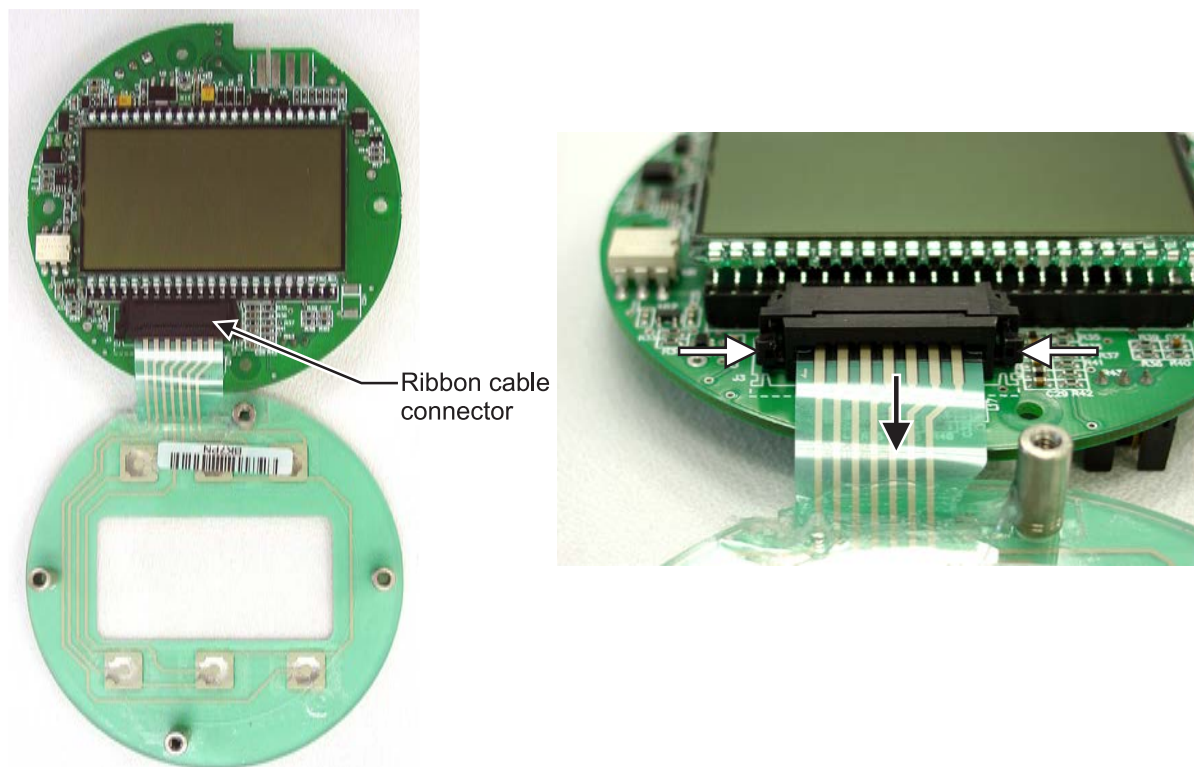

Figure 6.6—To release the ribbon cable from the connector, press in on the side tabs of the connector (white arrows) and gently pull forward (black arrow).
- a. Grasp the black clip between a thumb and forefinger (see white arrows in Figure 6.6 below).
- a. Grasp the black clip between a thumb and forefinger (see white arrows in *Figure 6.6, page 94*).